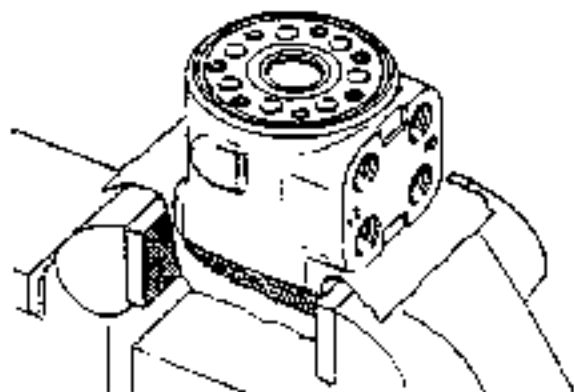

Figure 20
18. Clamp housing in vise, as shown in Fig. 20. Clamp tightly on edges of mounting area. Do not over tighten jaws.